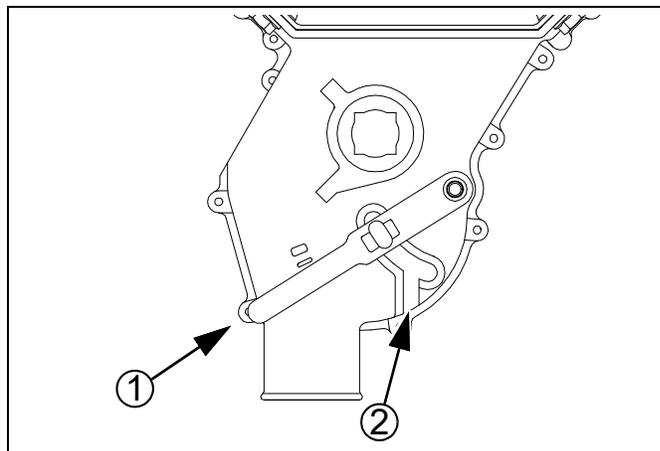

Figure 41
Refer to Figure 41, which depicts the seed cup door handle ① in a normal operating position.
1. Set the Seed Rate Handle to zero (0). This moves the seed cup sprockets out of the seed path.
3. At the seed cup for that row, pull the door handle ① out of the operating detent range, and swing it down to position ②.